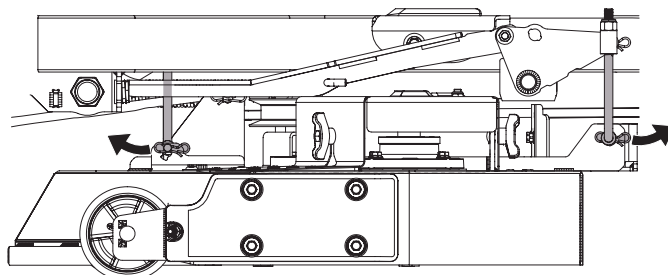

Figure 53
8. Remove the bow-tie pin from the bottom clevis end of each deck height adjust rod. There is one at the front and one at the rear on each side of the deck. See Figure 53. (Left side shown).